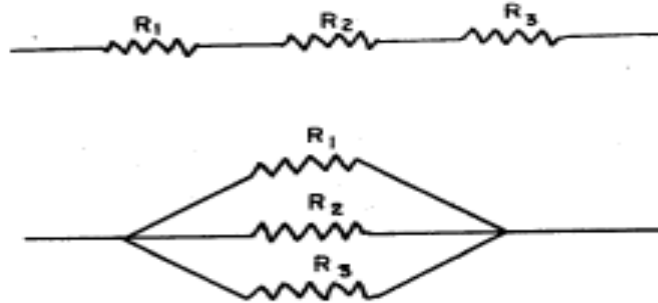

Fig. 7.34
Theory: Resistance S are said to be connected in series when they are connected with the end of one joined to the beginning of the next and so on as shown in Fig. 7.34 [a]. The equivalent resistance to a number of resistances connected in series is equal to the sum of the individual resistances, i.e.,
If, then resistances are arranged with their respective ends connected to common terminals, they are said to be connected in parallel as shown in Fig. 7.34 (b). The reciprocal of equivalent resistance to a number of resistances connected in parallel is equal to the sum of the
- 2) Join the resistance R_1 , R_2 , R_3 etc. in series as in Fig 7.34 (a) and determine the equivalent resistance of the series combination by means of the P.O. Box' Show that relation (1) holds good.
- 3) [iii] Connect the resistances R_1 , R_2 , R_3 etc. in parallel as in Fig 7.34 (b) and determine the equivalent resistance of the parallel combination as before. Show that relation (2) holds good.